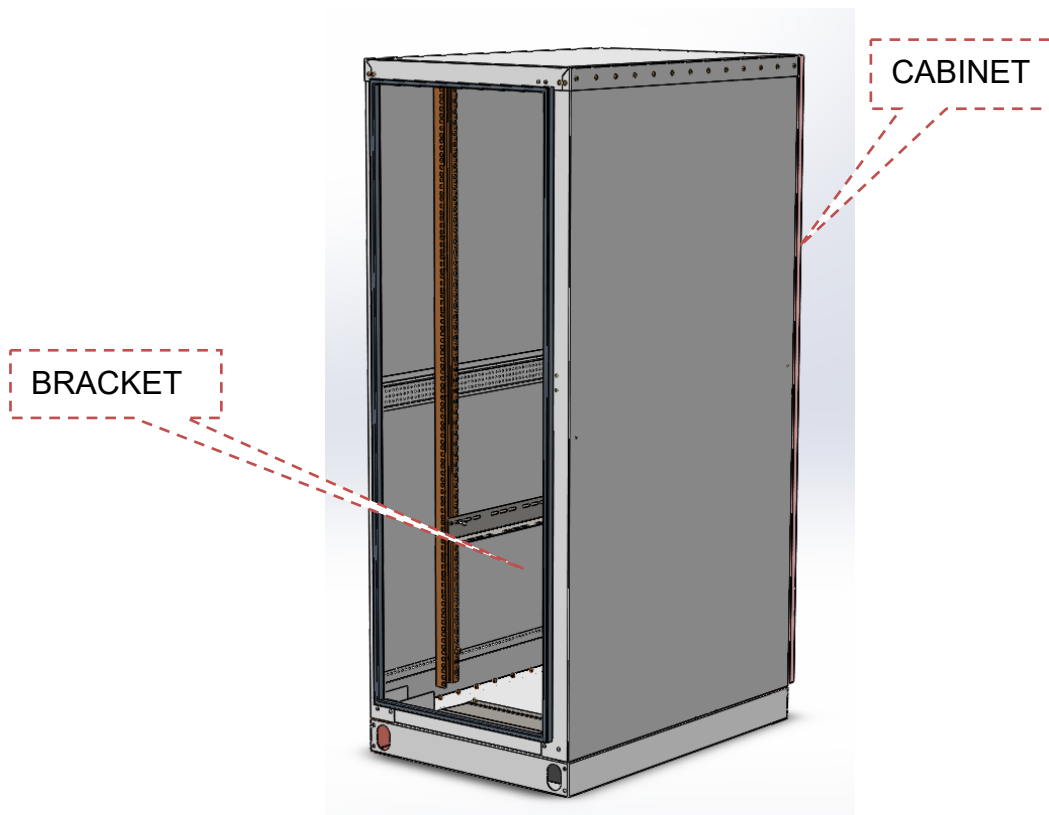

Figure 3-10
1. Install bracket on the cabinet with the screw reference to Figure 3-10.